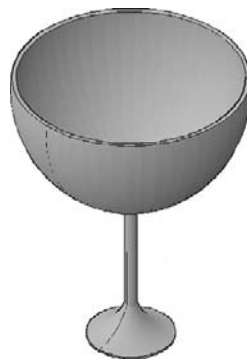

FIGURE 27.16
Step 5. Key in any value or press Enter for the full 360°. The result, shaded and colored, is shown in Figure 27.16.